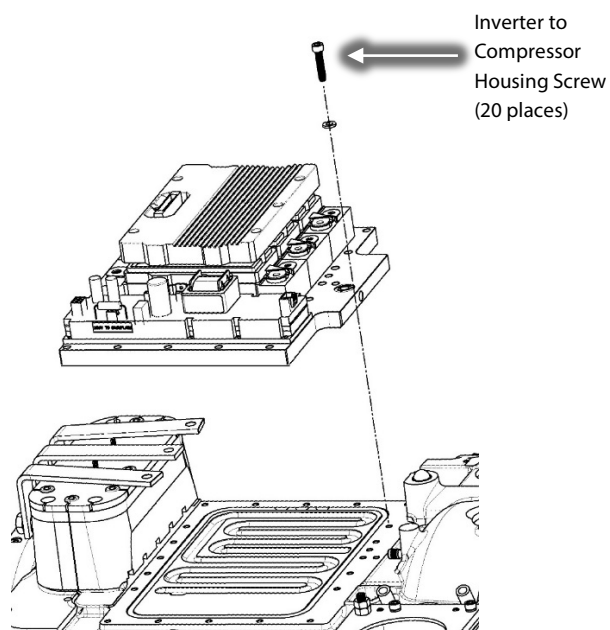

Figure 20 – Inverter Removal
29. Remove the 20 fasteners that secure the Inverter to the compressor main housing. Refer to Figure 20 (Inverter Removal).